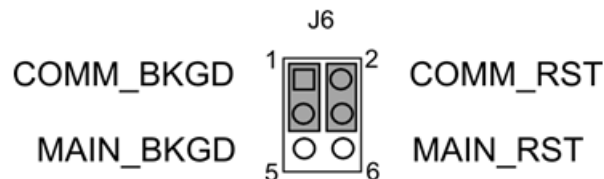

Figure 3-1. MC9S08JM60 Comm MCU programming configuration
4. Select the MC9S08JM60 Comm MCU as target of the OSBDM by setting jumpers on position 1–3 and 2–4 from connector J6 on the TSSEVB. Figure 3-1 shows the required configuration of connector J6.